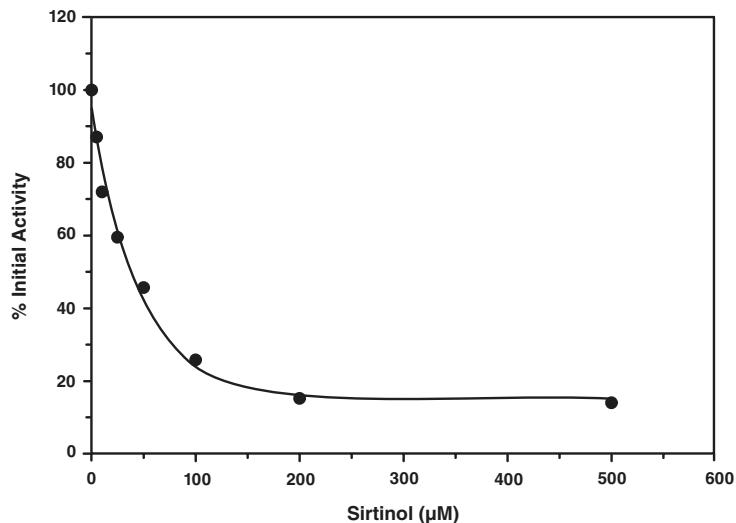

Figure 3. Inhibition of SIRT1 by Sirtinol ($IC_{50} = 38 \mu\text{M}$)
4. Either graph the Percent Inhibition or Percent Initial Activity as a function of the inhibitor concentration to determine the IC_{50} value (concentration at which there was 50% inhibition). An example of SIRT1 inhibition by Sirtinol, a sirtuin-specific inhibitor, is shown in Figure 3 on page 12.^{19,20}